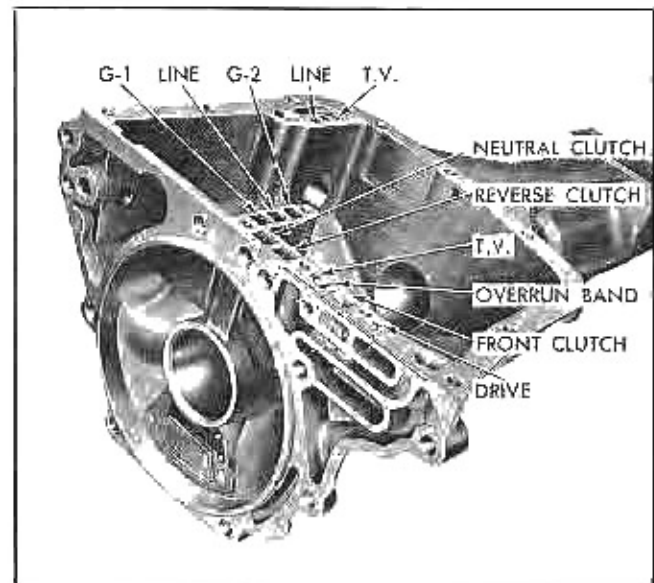

Fig. 96 Rear Bearing Retainer Passages
1. Inspect rear bearing retainer for hair line cracks or leaks (Fig. 96).